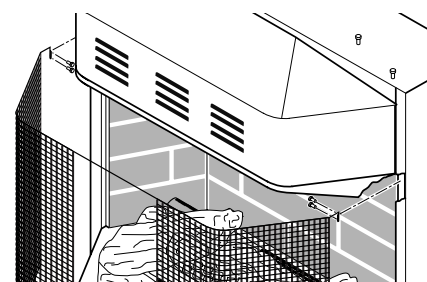
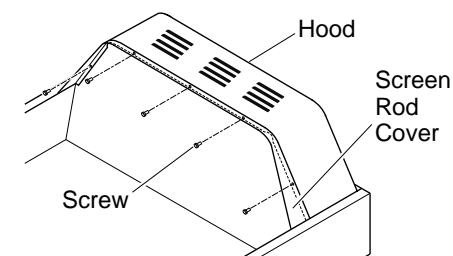
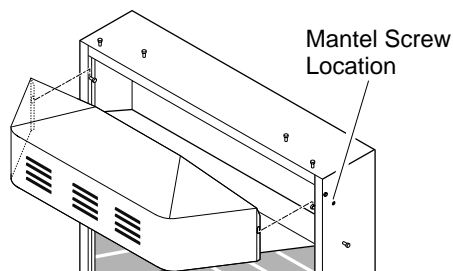

Figure 11 - Removing Screen
Figure 12 - Removing Hood Screws
Figure 13 - Removing Hood
2. Remove screen from fireplace by removing screws in each end of screen rod (see Figure 11). Hold screen rod cover while removing five hex head screws underneath hood (see Figure 12). Carefully lift and pull out hood (see Figure 13).
- Attach remaining two 3" wood screws from hardware pack through openings inside of fireplace sides into the mantel. See Figure 13 for screw hole location.